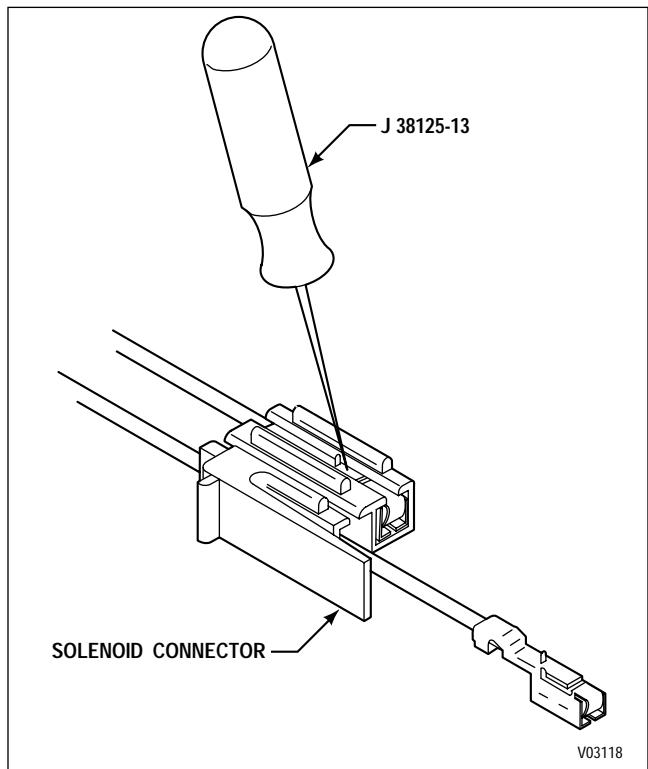

Figure 6-22. Terminal Removal
- (1) Remove snapring 9 from feedthrough seal 10.
- (2) Disconnect two connectors 8 from solenoids 7.
- (3) Remove the terminals from connectors 8 as follows:
- Using remover tool J 38125-13, depress locktab on terminal (accessible in slot of connector) and push the terminal out front of the connector (Figure 6-22).
- (4) Remove harness 11 from transfer plate 14.
- (5) Remove a pipe plug 12 and a pin 13 for each solenoid 7 and remove the two solenoids.